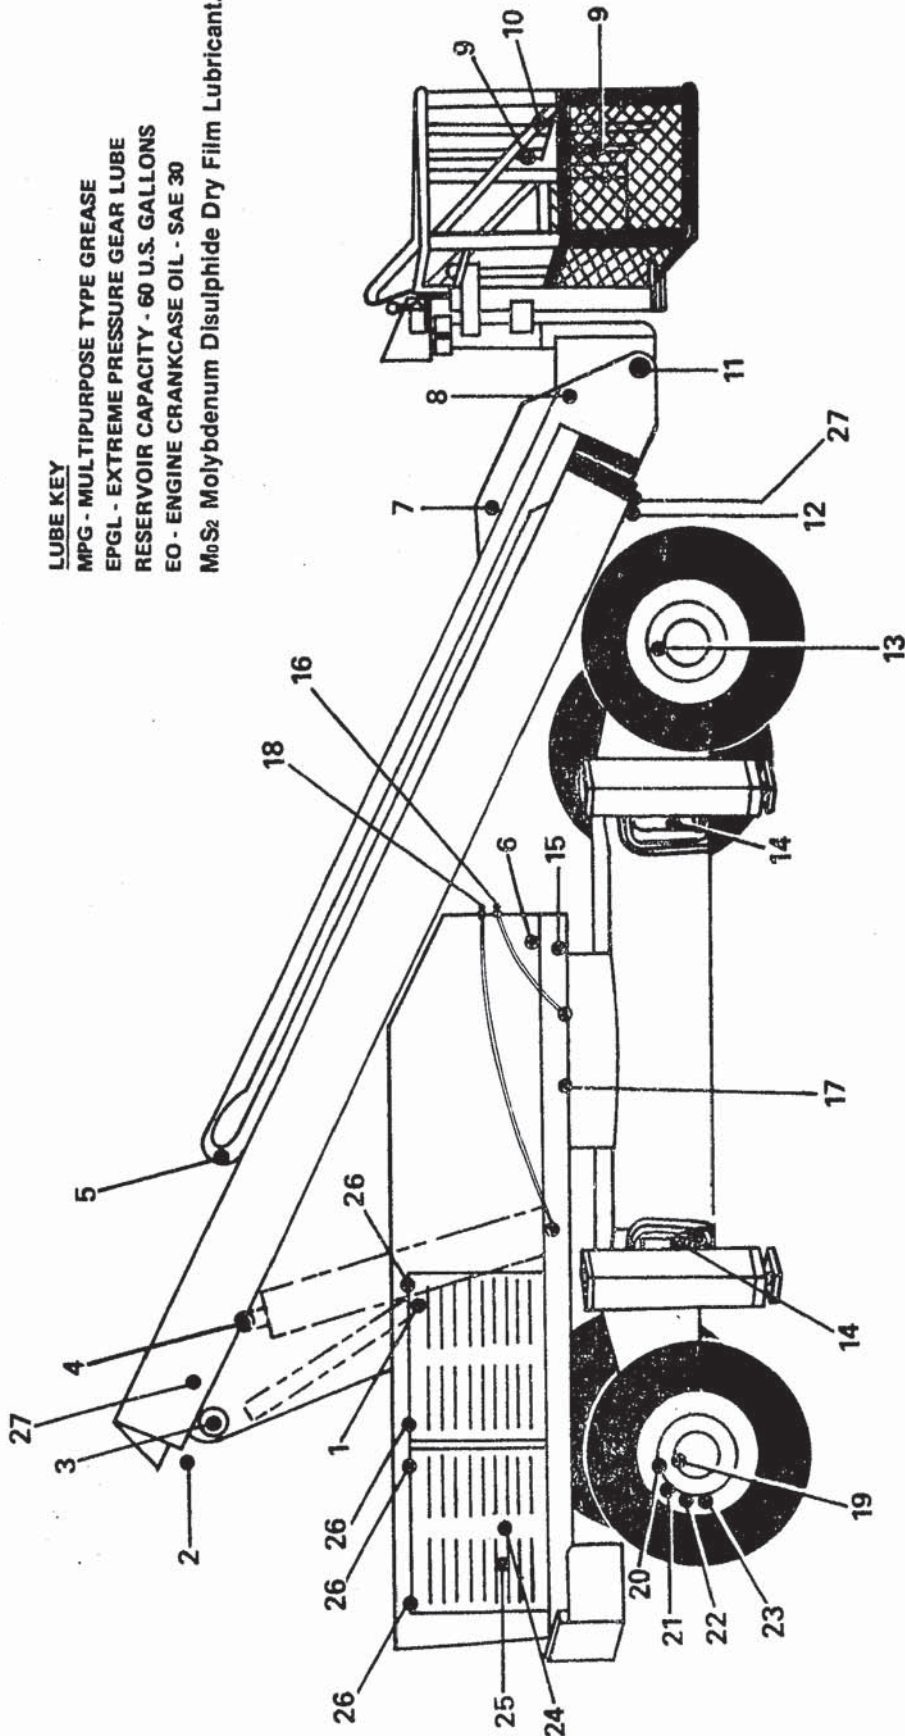

Figure 2-1. Lubrication Chart (Page 1 of 2).
- (2). Start each day with a full fuel tank. Ensure filler cap is closed and secure.
- (3). Check oil level in engine crankcase. Fill to FULL mark on dipstick — DO NOT overfill. Ensure fill cap is securely in place.
- (4). Check engine radiator for proper coolant as necessary. Ensure radiator cap is securely in place. (Refer to manufacturer's manual for cold weather coolant.)
- (5). Check battery for proper electrolyte level, cables for security, visible damage, and corrosion. Add only clean distilled water — DO NOT overfill. Check cell caps for security.
- (6). Inspect boom pivot pin, lift cylinder rod end pin, and platform pivot pin. (Refer to Lubrication Chart, Figure 2-1.)
- (7). Check platform footswitch for proper operation. Switch must be released to start engine and depressed to operate machine functions.
- (8). Check capacity indicator for any damage and that decal is not defaced.